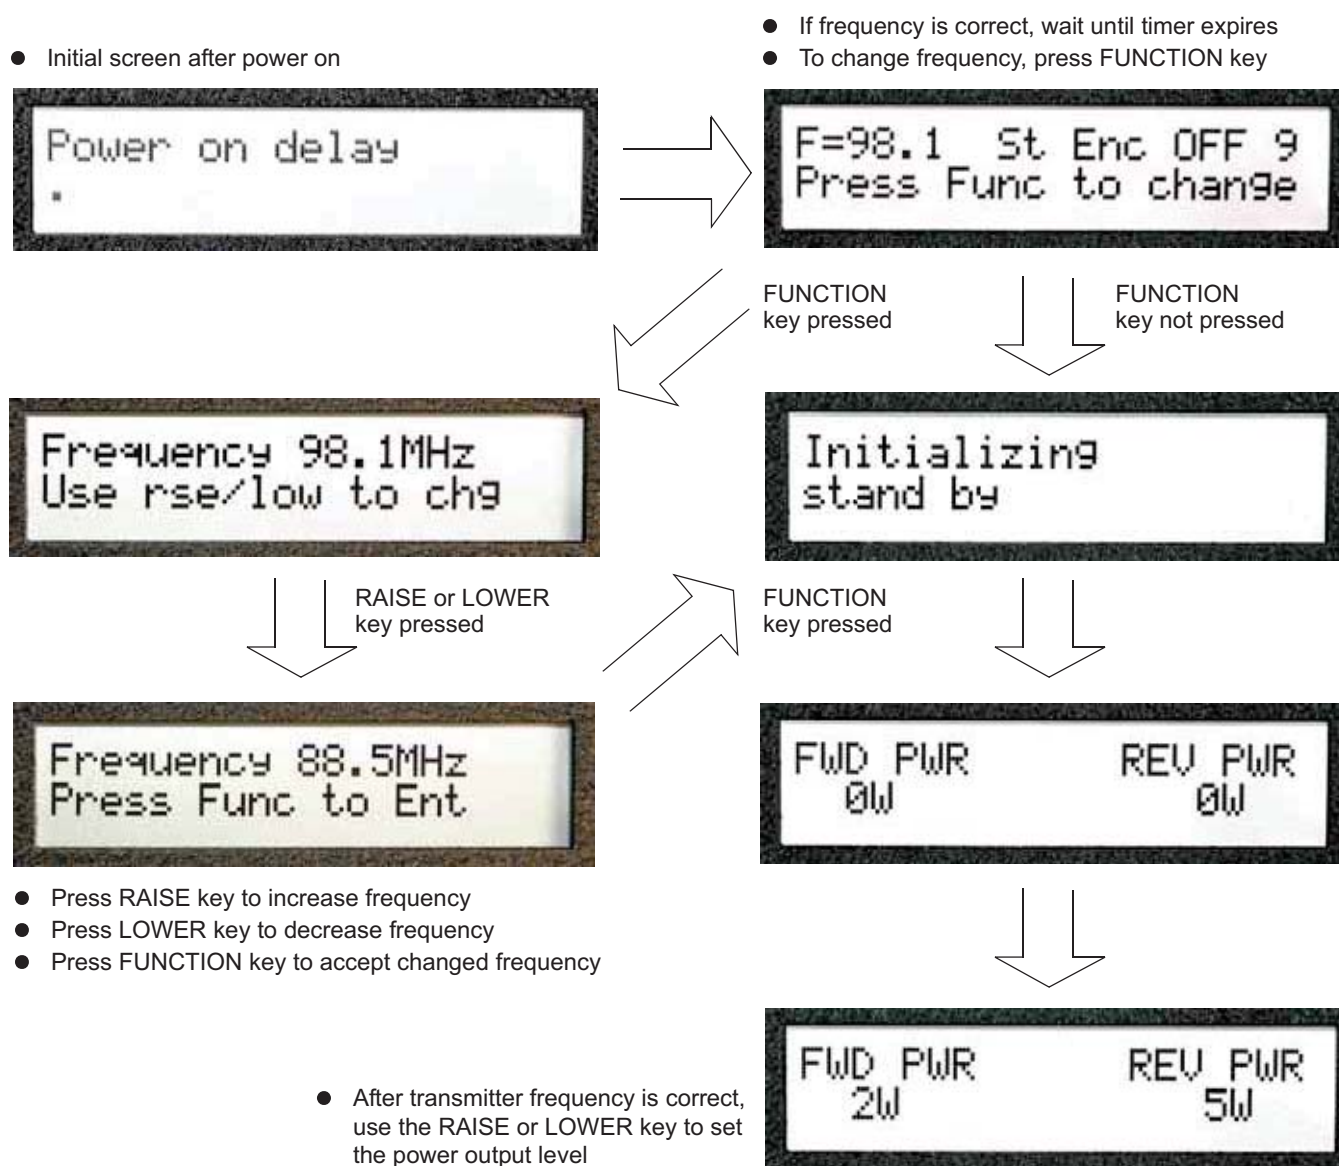

Figure 3-4. After the OPERATE Key is Pressed, the Startup Sequence Begins
2. After the OPERATE key is enabled, the LED display will show the initialization sequence and display the screens—in order—shown in Figure 3-4.